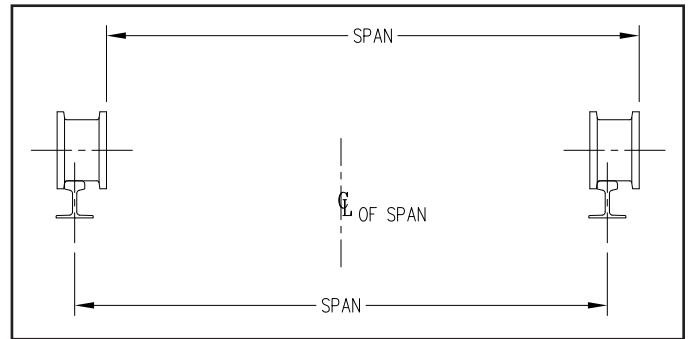

Figure 4. Checking Wheels
3. To check the distance between the trucks, push all truck wheels in one direction. The distance from the outside of the wheel on one side of the span to the inside of the wheel on the other side of the span should equal the span length, see figure 4. The tolerance on this distance is  $\pm 1/32"$